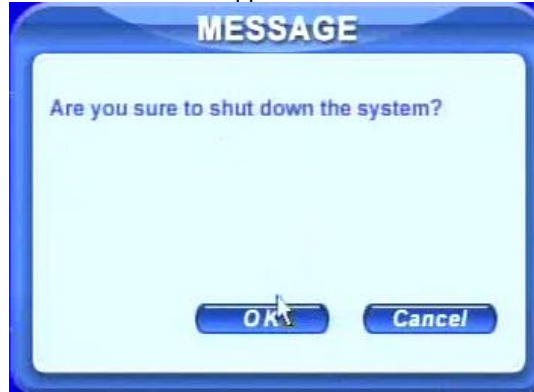

Fig 3.3 Shut down
STEP2 Click Shut down button, referring to Fig 3.3 Shut down